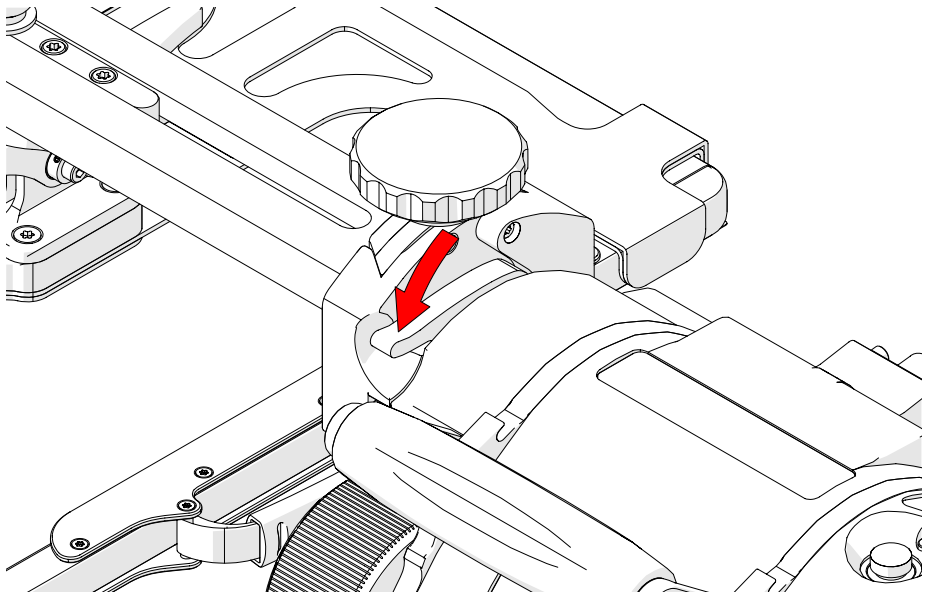

Fig. 34 - Press lever down
4. Press the lever down to lock the detector bracket in place (Fig. 34).